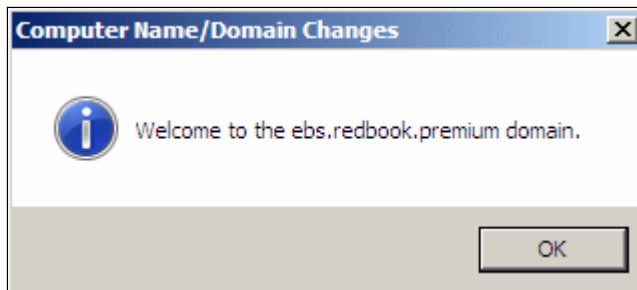

Figure 6-10 Domain welcome message
4. Adding the server to the domain can take some time. When the windows in Figure 6-10 displays, click **OK**.